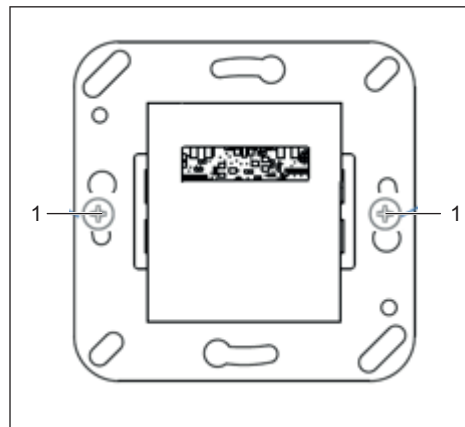

Fig. 16: Install the WRU 220 reader in the switch box
3. Install the reader in the pre-installed switch box (Fig. 16).